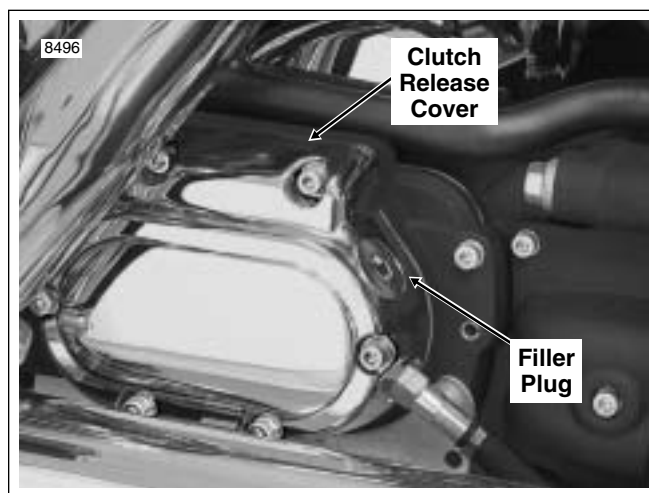
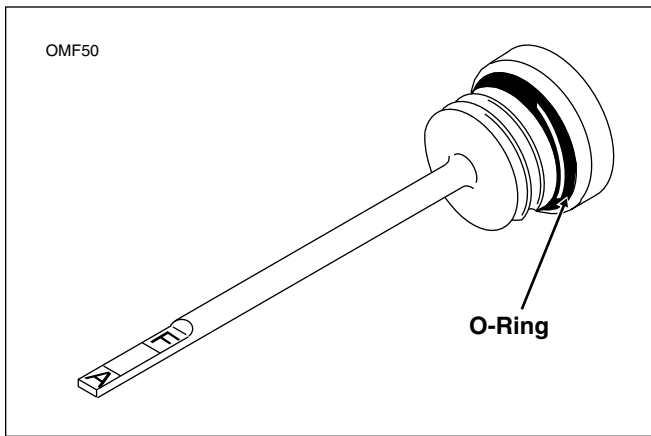

Figure 7-16. Transmission Case (Right Side)
Figure 7-17. Transmission Lubricant Filler Plug/Dipstick
11. Remove the filler plug from the clutch release cover, if installed. See Figure 7-16. Check the O-ring for tears, cuts or general deterioration. Replace as necessary. See Figure 7-17.